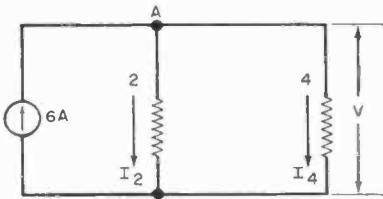

Fig. 9
E. Parallel Circuits. A parallel circuit is a network where the voltage across each element is the same (Fig. 9).
Ex. 10. For the parallel circuit in Fig. 9, determine (a) the voltage across each resistor and (b) the current in each. *Sol.* (a) Applying Kirchhoff's current law at node A, we have: $-6 + V/2 + V/4 = 0$ or $6 = V(2 + 1)/4 = 3V/4$; and $V = 8$ V. (b) $I_2 = 8/2 = 4$ A; $I_4 = 8/4 = 2$ A.